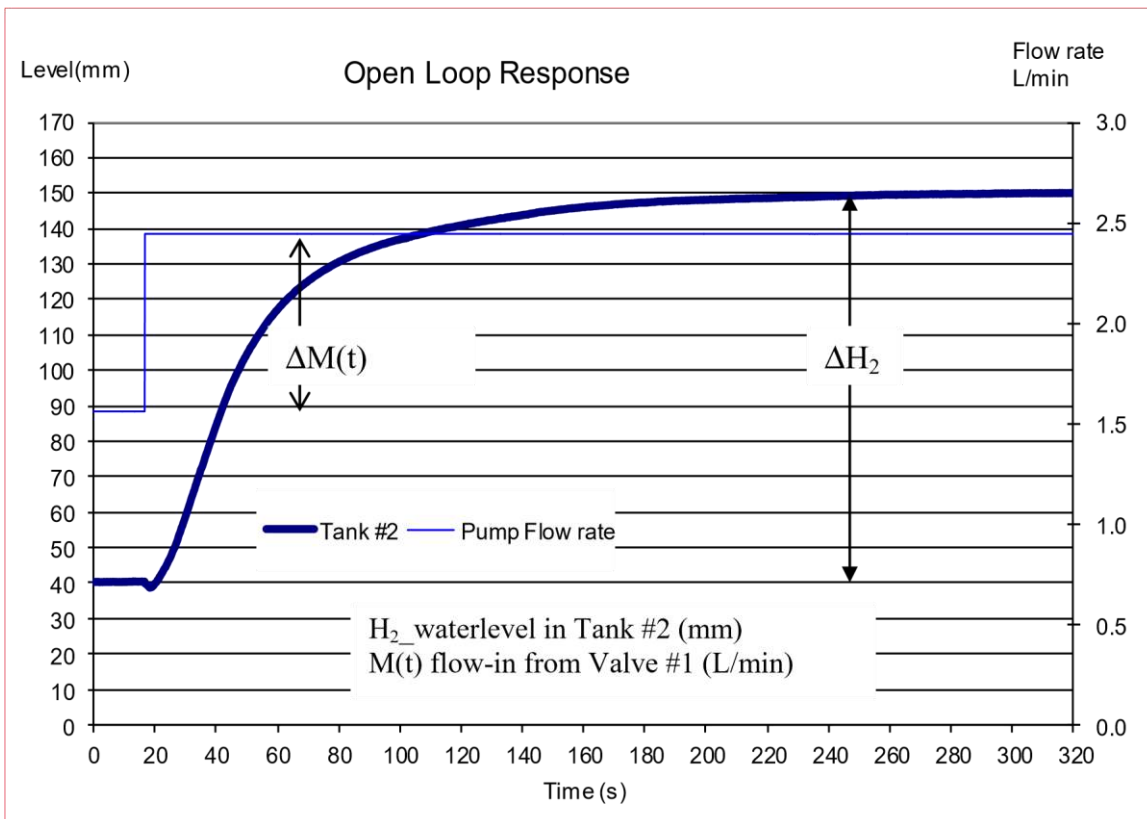

Figure 4 - An Example of an Open Loop Response
9. Use the data from the session file to generate a graph of the open loop response, plotting (*in the same graph*, similar to Figure 4):
Figure 4 shows an **EXAMPLE** of an open loop response, which illustrates how the water level in Tank 2 changes when the flow into the system changes.